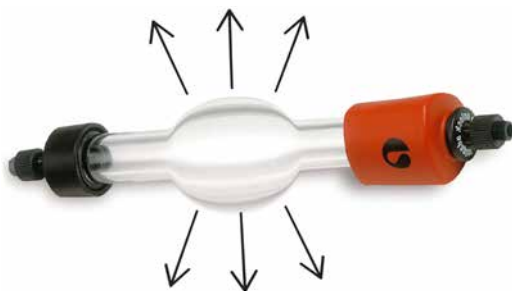

Fig 1.12. Column hardware pressure limit is the maximum pressure the column can withstand without damage.
1. **To protect the column hardware:** Column hardware pressure limit (Fig 1.12), which is the maximum pressure the hardware can withstand without being damaged. This value is fixed for each column type. Leakage from the column could be a sign of excessive pressure on the column hardware.